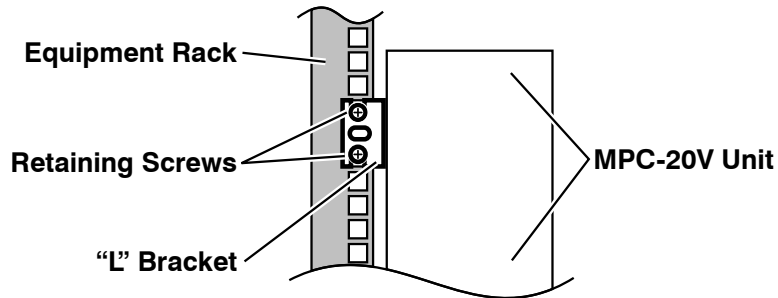

Figure 2: Attaching the "L" Brackets to the Equipment Rack (MPC-20V Shown)
2. **Attaching the "L" Brackets to the Equipment Rack:** Determine which direction the MPC unit will face in the rack, then line the "U" slots in the "L" Bracket up with two holes in the equipment rack mounting strip. Make certain that the unit is level, and then use two screws to secure each "L" bracket to the rack as shown in Figure 2.